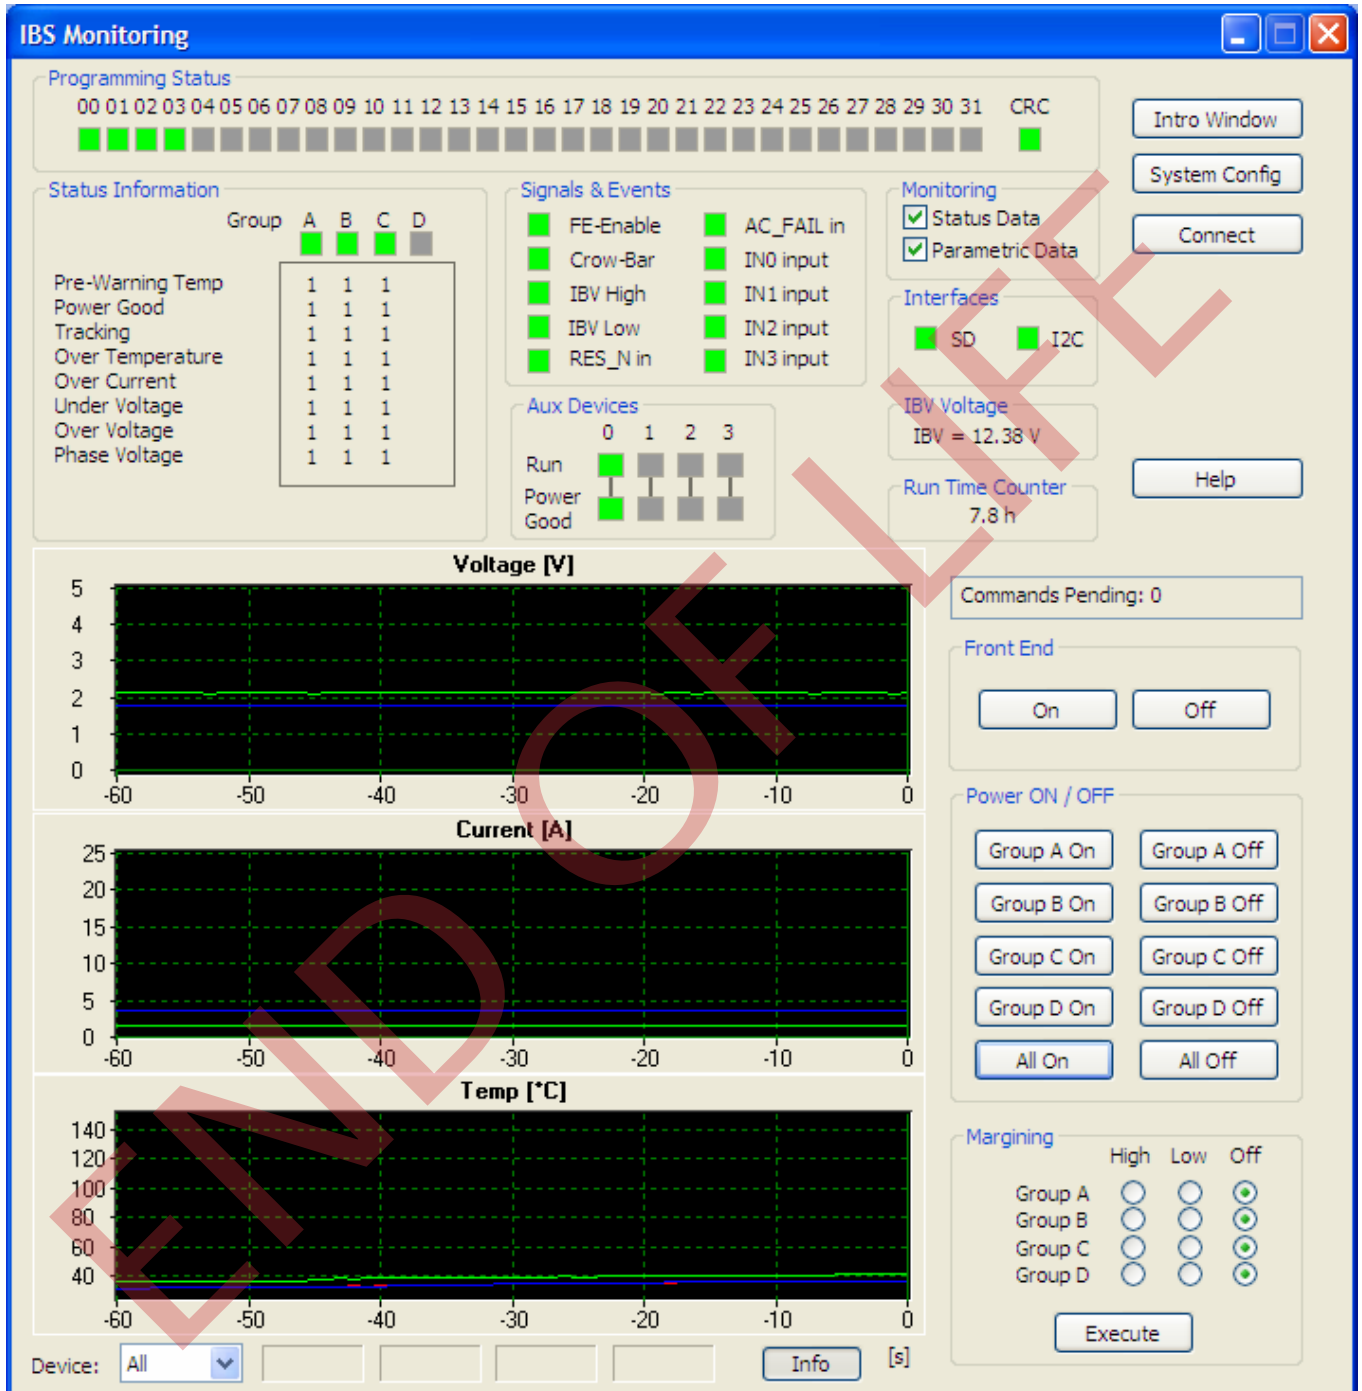

Figure 10. IBS Monitoring Window, Communication Is Established
7. Click **Connect**. The **IBS Monitoring** window will start displaying status and parametric information as shown in Figure 10. The LED will be ON during periods when data is transmitted over the I²C interface.